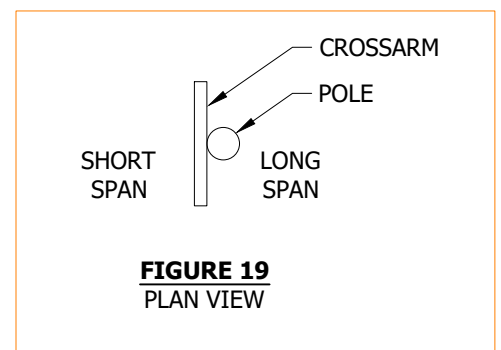

FIGURE 19
- (D) FOR 10-FOOT, 12-FOOT AND 15-FOOT STACKED CROSSARMS, INSTALLATION OF UNUSED T-PLATE HARDWARE IN THE VACANT POSITION IS PREFERRED.
- E. **TANGENT ARMS TO BE INSTALLED ON OPPOSITE SIDE OF POLE OF LONGER SPAN. SEE FIGURE 19.**